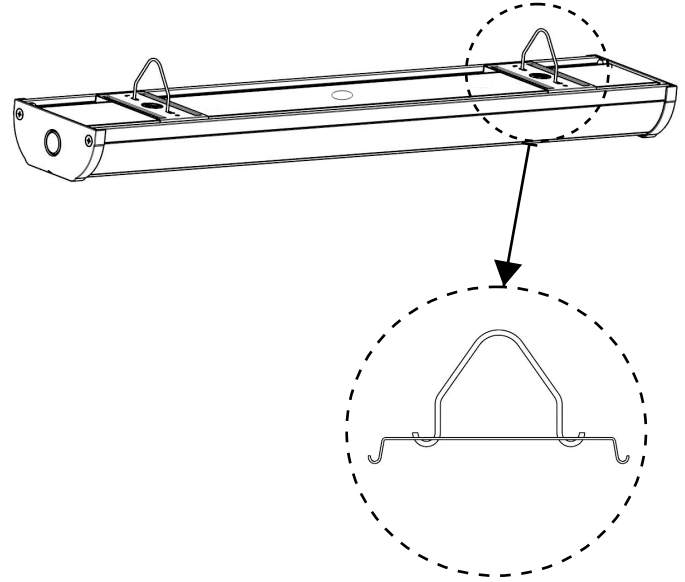

Fig.5 VHOOK MOUNTING
3. **V Hooks** (2) are provided for chain mounting. Loop **V-Hooks** through **Snap On Bracket** at back of **Housing** as in **Fig. 5**.
5. Fixture mounting height and spacing should be determined by application requirements. Use chain suitable to support four (4) times the weight of the fixture.